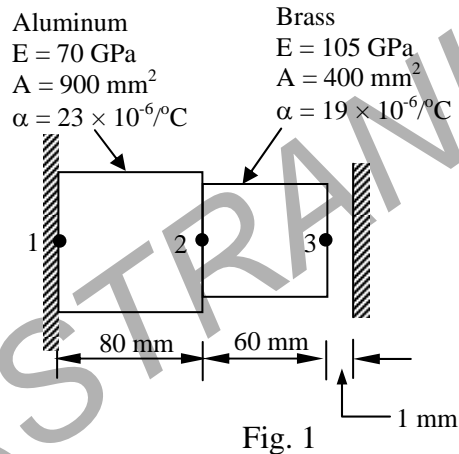

Fig. 1
2. For the two stepped bar shown in fig. 1, which is at room temperature is fixed at one end and a rigid wall at the other end. The temperature is then raised by  $50^\circ\text{C}$ . Determine the displacements at nodes 2 and 3, stresses in the two sections. [16]